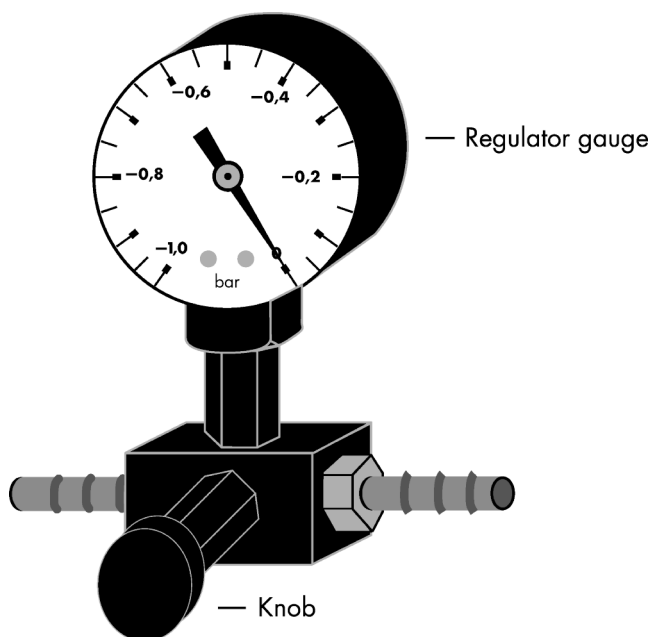

Figure 2. Schematic diagram of the Vacuum Regulator.
2. **Recommended: Insert a VacValve into each luer slot of the QIAvac 24 Plus that is to be used (see Figure 2).**
3. **Insert a VacConnector into each VacValve (see Figure 2) or directly into each luer slot of the QIAvac 24 Plus that is to be used. Close unused luer slots with luer plugs or close the inserted VacValve.**
4. **Place the QIAamp Mini columns into the VacConnectors on the manifold (see Figure 2).**